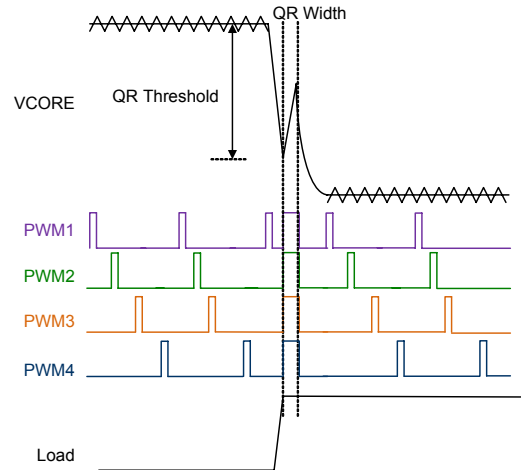

Figure 11. Quick Response Mechanism
When the transient load step-up becomes quite large, it is difficult for loop response to meet the energy transfer. Hence, that output voltage generate undershoot to fail specification. RT8884B has Quick Response (QR) mechanism being able to improve this issue. It adopts a nonlinear control mechanism which can disable interleaving function and simultaneously to turn on all UGATE one pulse at instantaneous step-up transient load to restrain the output voltage drooping, Figure 11 shows the QR behavior.